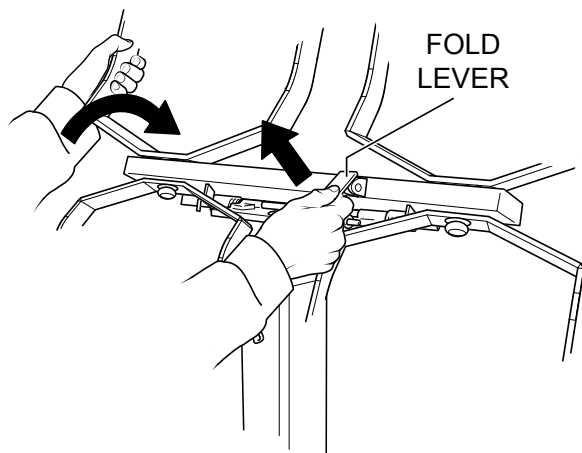

Figure 16. Lowering Lamp Stand
3. Holding the lamp stand with one hand, pull up the fold lever with the other hand (Figure 16).